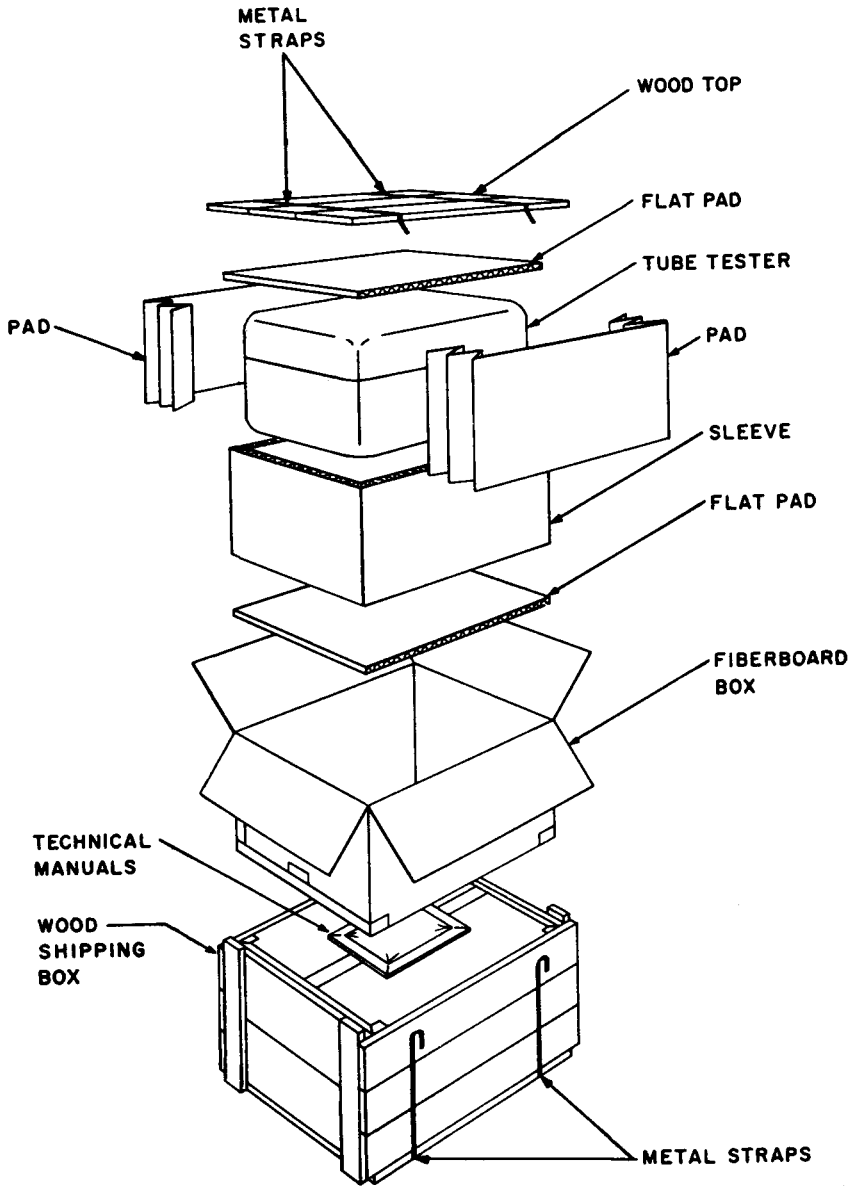

Figure 2. Typical packaging.
a. **Packaging Data.** When packed for shipment, the tube tester is cushioned on all surfaces and placed within a water-resistant fiberboard box. The fiberboard box is sealed with water-resistant tape and placed within a wooden shipping box. Spare tubes, lamps, and fuses are placed in their designated positions within the tube tester (figs. 1 and 8). The technical manuals are packed within a close-fitting bag fabricated of waterproof wrapping paper. The bag is securely sealed with waterproof pressure-sensitive tape. The wooden shipping box is strapped only for intertheater shipment. A typical wooden shipping box and its contents are shown in figure 2.
- (1) The inside dimensions of a wooden shipping box that contains a tube tester is approximately 19¼ by 18¼ by 10¾ inches.
- (2) The outside volume of the tube tester packed in a wooden shipping box is 2.16 cubic feet, and weighs 60 pounds.